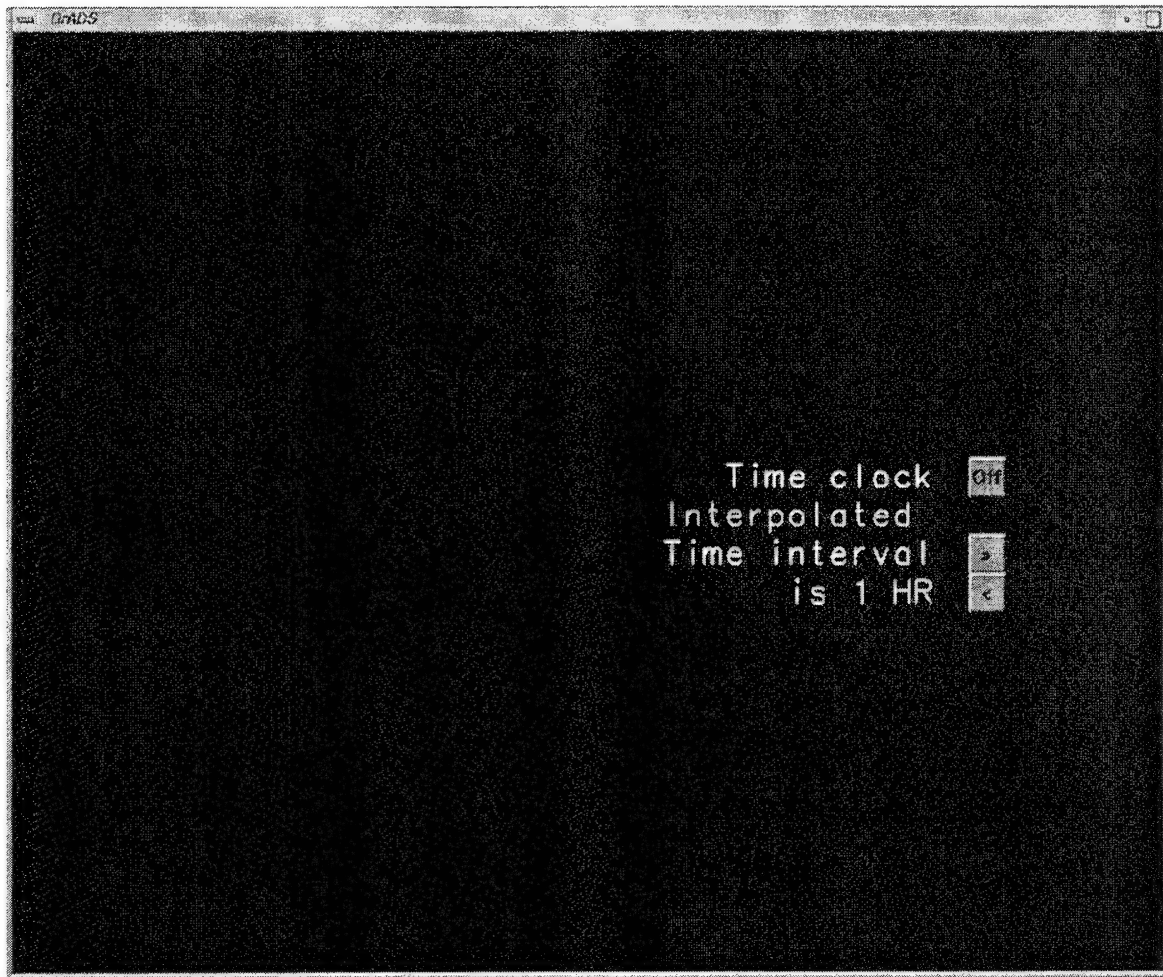

Figure 4. Time settings menu.
4.5.3 Time settings. The current time interval between tick marks is displayed vertically at the center of the time bar. Clicking with the right mouse button on the time interval displays the time settings menu (Fig. 4). Options for displaying a local clock or setting the desired time interpolation interval are available. Options must be selected using the right mouse button. Clicking the left or middle mouse button accepts the displayed time option settings.